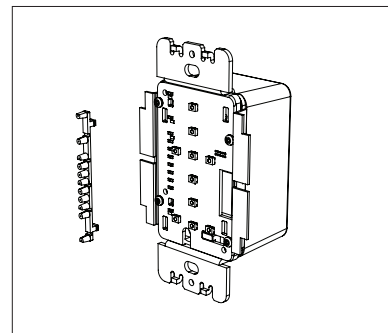

fig. 12
5. If removing the chassis detached the light guide from the board, reapply the light guide. The light guide is a thin, black rubber strip with chimneys on top (see figure 12). To reapply, fit the two pegs on the underside of the light guide into the two square holes on the board.